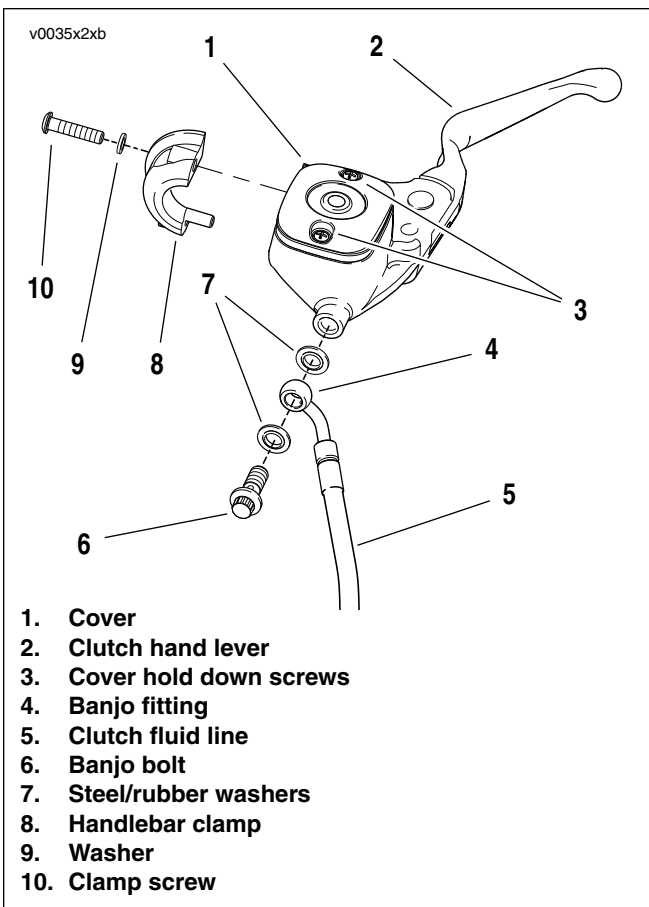

Figure 2-31. Clutch Master Cylinder/Reservoir
3. See Figure 2-31. Loosen, but do not remove, screws with flat washers that detach handlebar clamp from clutch master cylinder/reservoir.
1. See Figure 2-31. Attach master cylinder/reservoir to handlebar with handlebar clamp. Orient lever to rider position and tighten two clamp screws to 60-80 **in-lbs** (6.8-9.0 Nm).